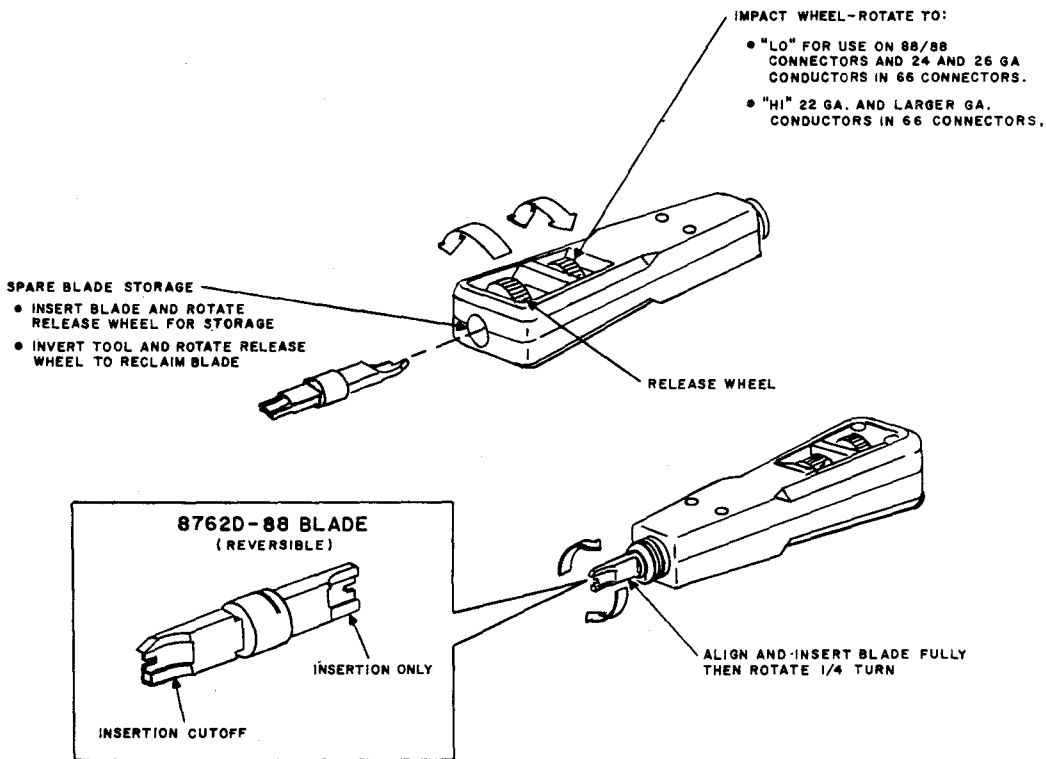

Fig. 11—D Impact Tool
3.04 The *D impact tool (AT-8762)* (Fig. 11) is a single wire impact-type tool with a reversible blade for insertion/cutoff or insertion only.